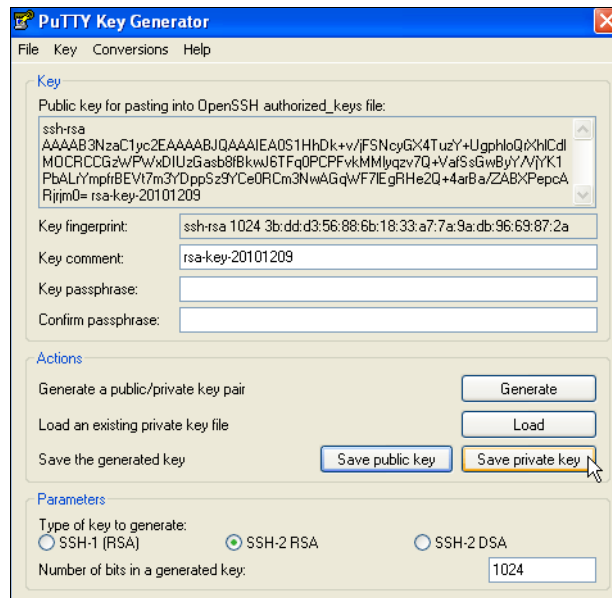

Figure A-4 Save private key
5. Click **Save private key**, as shown in Figure A-4.